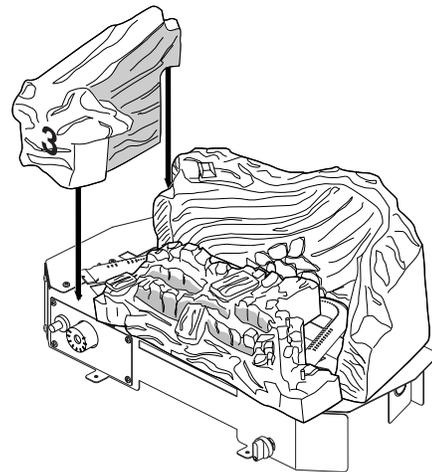

Figure 21 - Installing Log #3 (Model CGX3930NT Shown)
3. Place log #3 on the left side of the base. It will overlap log #1 and log #2 and will wrap around the front end of the back burner (see Figure 21).